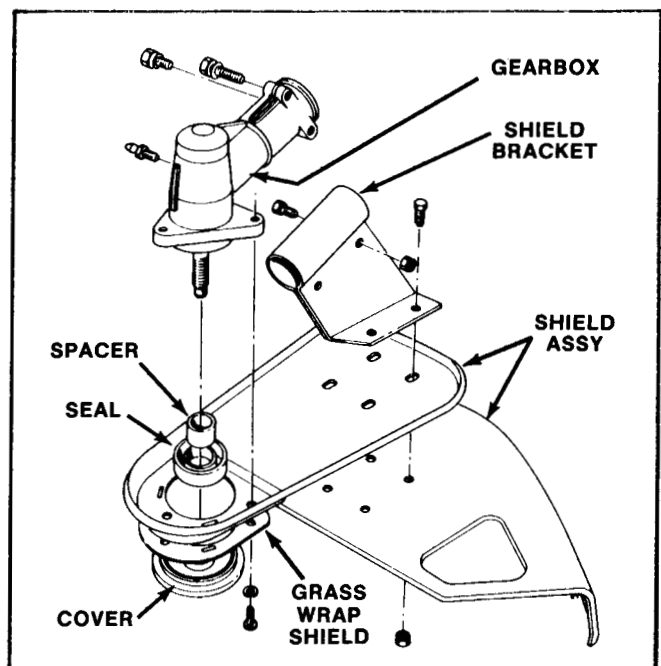

Figure 125
See Figure 125.
4. Install the two portions of the shield as shown in Figure 125. Secure with the four machine screws and nylon lock nuts.
5. On units with serial numbers 6000001 and up, place the grass wrap shield around the drive shaft. See Figure 125.